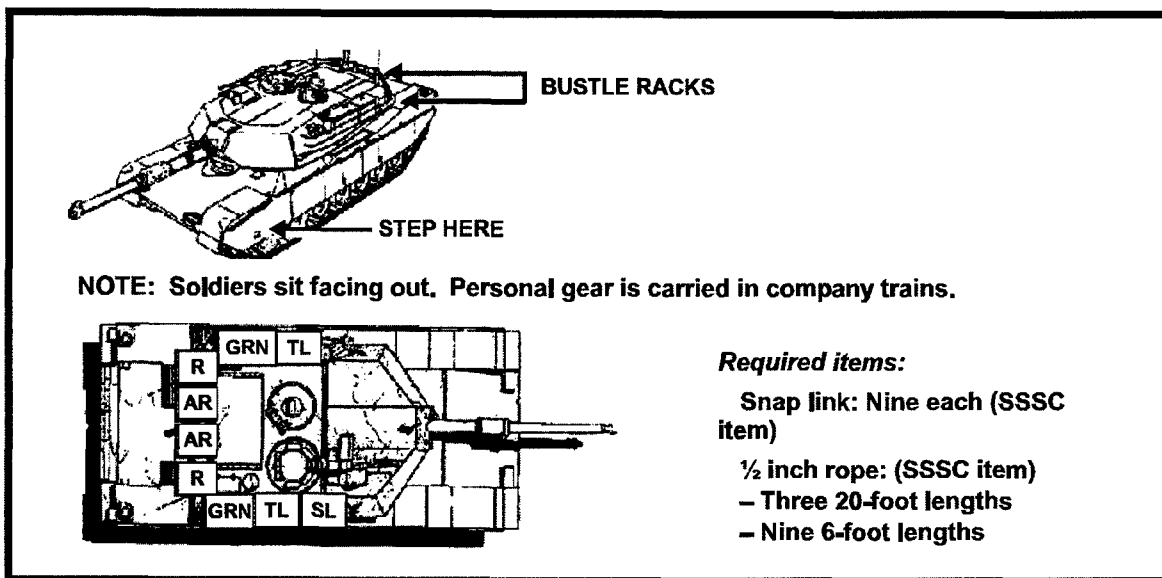

Figure 2-74. Mounting and Riding Arrangements on an M1.
(1) **M1.** The M1 tank is not designed to carry riders easily. Riders must NOT move to the rear deck. Engine operating temperatures make this area unsafe for riders. (Figure 2-74.)